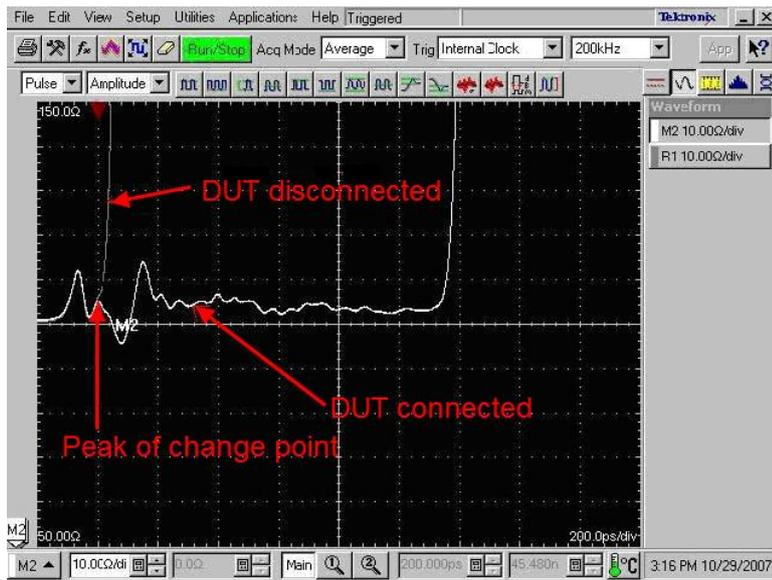

Figure 24 Adjust Horizontal Position
- f. Adjust the **HORIZONTAL POSITION** knob so that a **M2** (unfiltered impedance) waveform peak of change point becomes 1 division from left (see Figure 24).